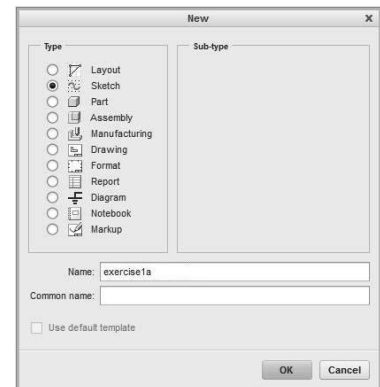

Figure 3-48 Name Sketcher File
- Step 4:** *Select* **Sketch** and name the sketch, “exercise1a”. *Pick* **OK**. See Figure 3-48.